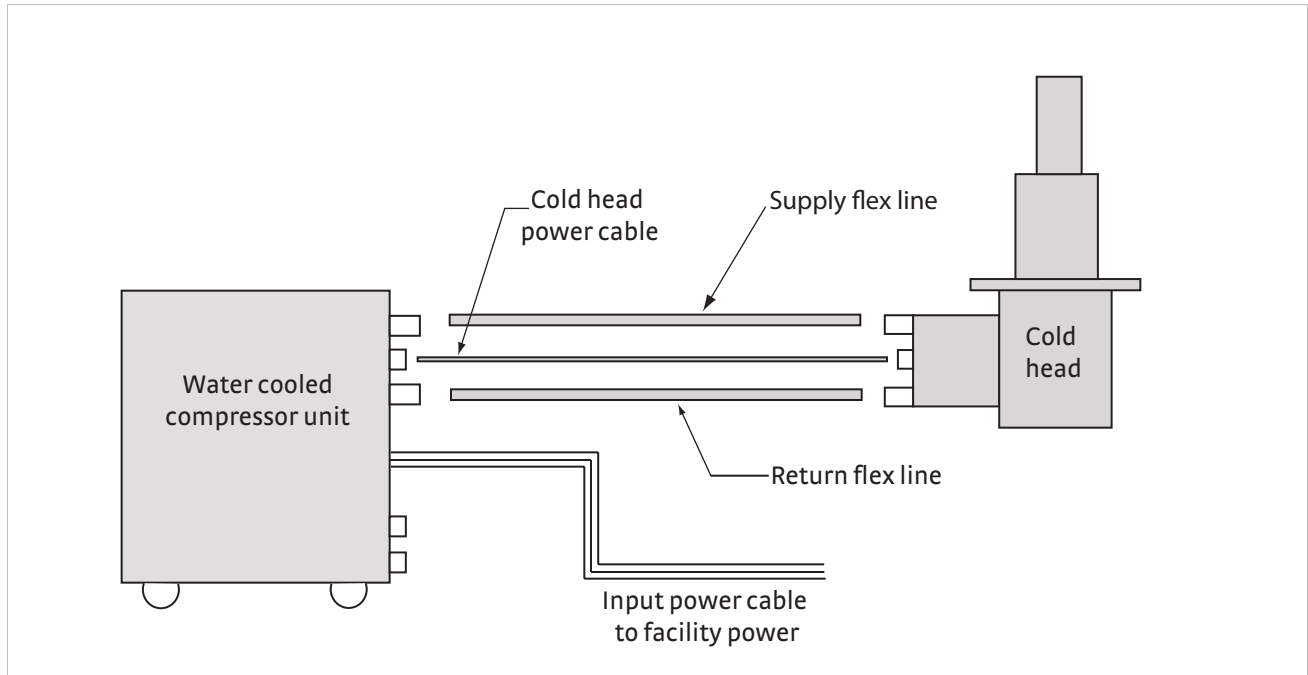

FIGURE 2-5 Closed cycle refrigerator
The cooling engine in the Model CRX-6.5K is a closed cycle refrigerator (CCR) that uses compressed helium gas as the refrigerant. The main components of the CCR are the cold head, compressor unit, flexible helium lines, and the cold head power cable. The cold head is a two-stage, Gifford-McMahon (GM) cycle cryocooler. The compressor unit supplies the power to the cold head via the cold head power cable, and it supplies the high pressure helium gas to the cold head via the flexible helium lines. The compressor unit requires cooling water and power for operation. FIGURE 2-5 illustrates the CCR.